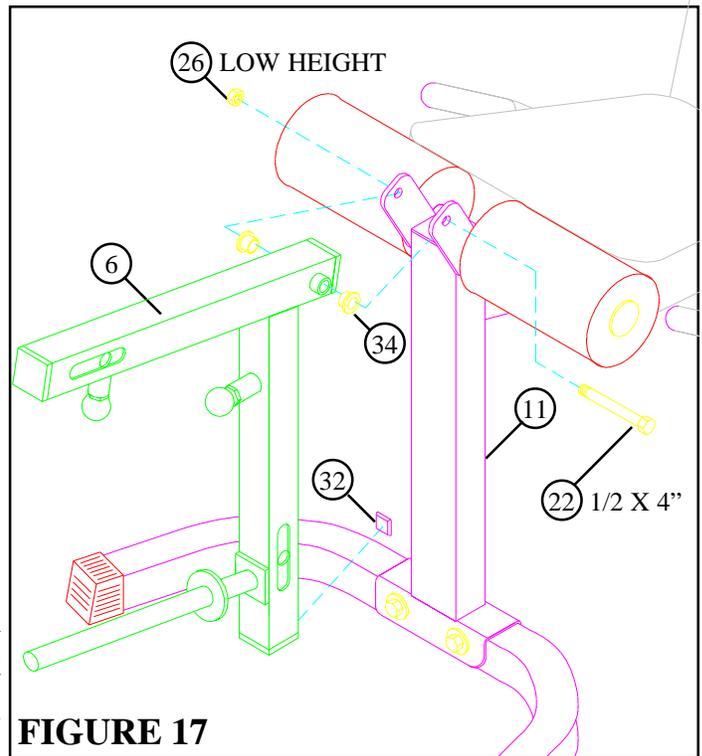

FIGURE 17
STEP 20: Insert two 1/2" FLANGE BEARINGS (34) into the LEG CURL/EXTENSION (6). See FIGURE 17.
STEP 21: Securely assemble LEG CURL/EXTENSION (6) to LEG FRAME (11) using one 1/2 X 4" BOLT (22) and one 1/2" LOW HEIGHT NYLOCK NUT (26). (NOTE: SECURELY TIGHTEN BOLT THEN BACK NUT OFF 1/4 TURN TO ALLOW THE PART TO ROTATE FREELY.) See FIGURE 17
STEP 22: Attach one 3/4" SQUARE RUBBER BUMPER (32) between the contact point of the LEG CURL/EXTENSION (6) and the LEG FRAME (11). See FIGURE 17.